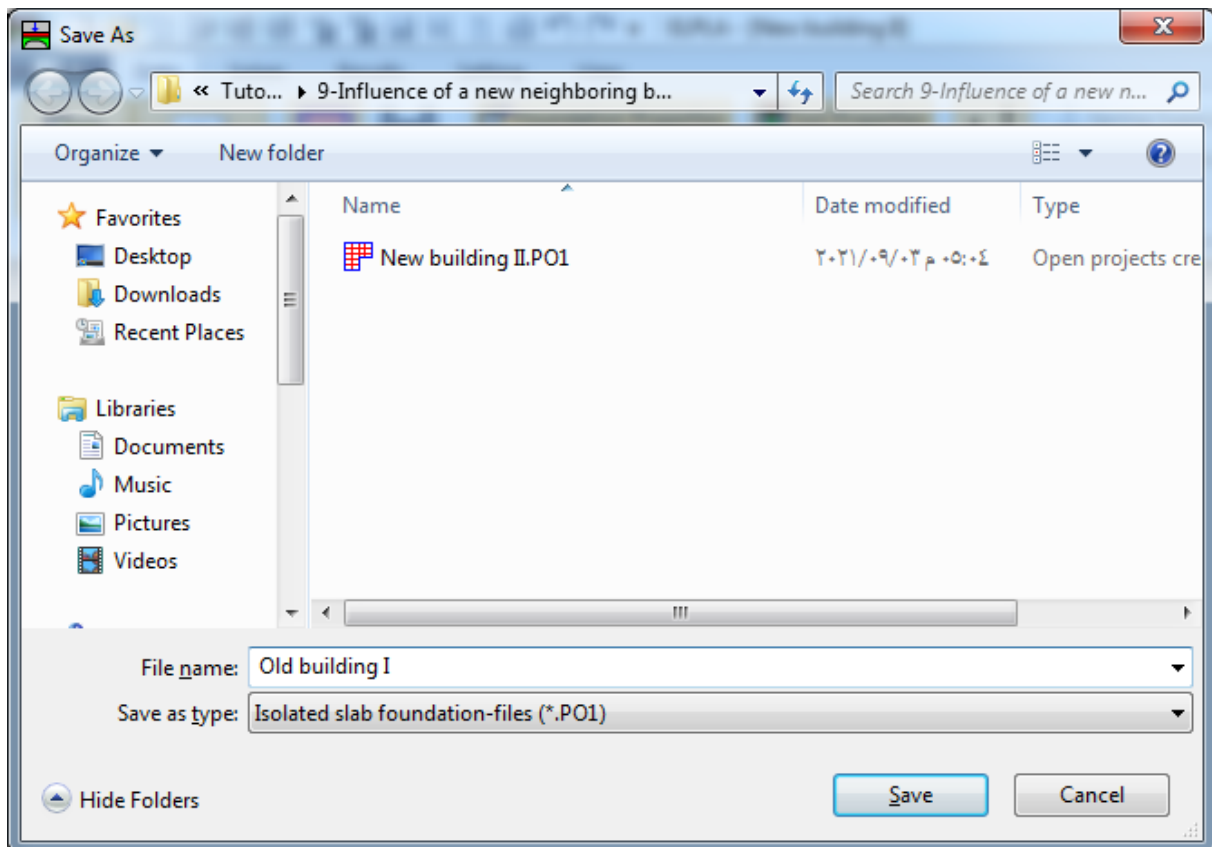

Figure 9.29 "Save as" dialog box
- Choose "Save as" command from "File" menu of *ELPLA*. The following "Save as" dialog box appears, Figure 9.29